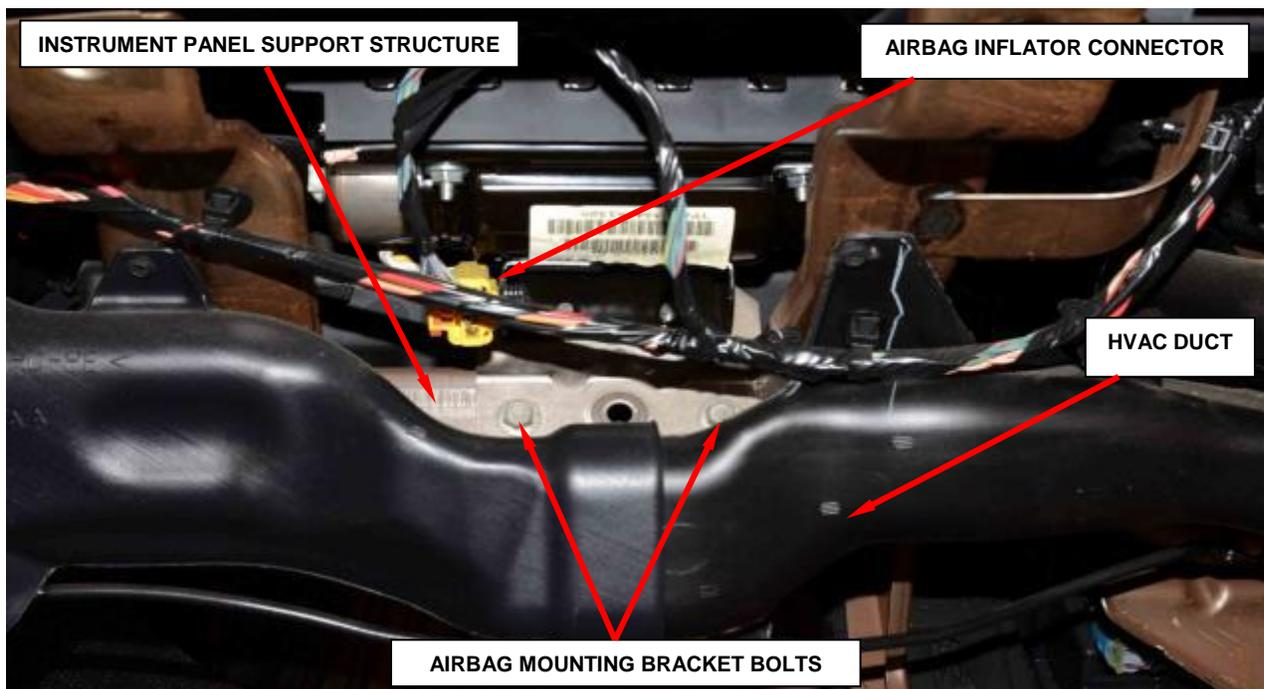

Figure 81 – Instrument Panel Mounting Bracket
- 33. Remove and save the two bolts that secure the passenger airbag bracket to the instrument panel support structure (Figure 81).
34. Disconnect the instrument panel wire harness connector from the airbag inflator pigtail connector on the right side of the airbag mounting bracket (Figures 81 and 82).